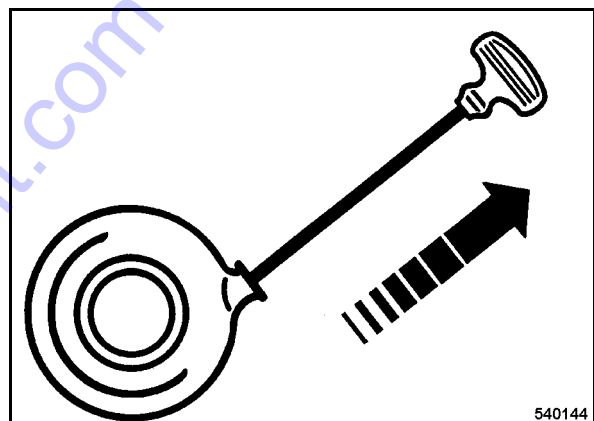

Fig. 16
- Pull the starter handle quickly and with power (Fig. 16) .